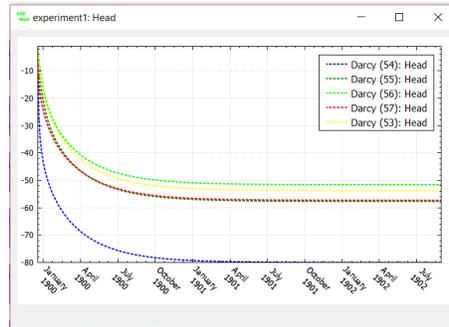

Figure 2.4: Hydraulic head in select blocks
- Right-click on a block of your choice and select **Plot Hydraulic Results**→**Plot Storage** from the drop-down menu that appears. You may copy and paste the results on one graph to another one for comparison. For example figure 2.4 shows the storage in blocks *Darcy (53)* to *Darcy (57)*. As it can be seen the drop in the hydraulic head at the wells are quite significant. This is due to the high pumping rates relative to the hydraulic conductivities of the aquifer.